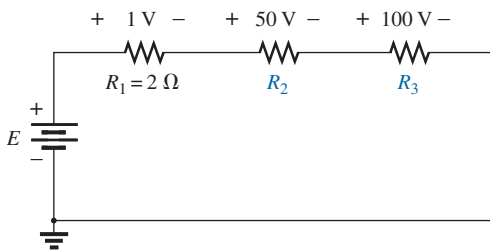

FIG. 5.108
- 24. Determine the values of the unknown resistors in Fig. 5.108 using the provided voltage levels.